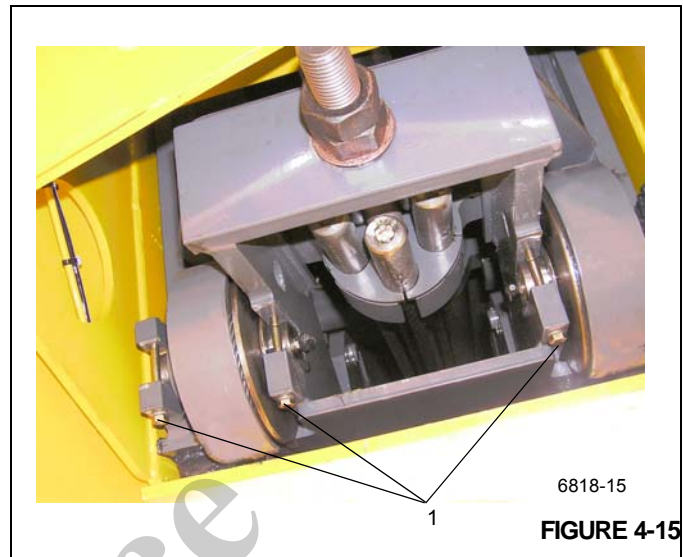

FIGURE 4-15
1. On both sides, remove the bolts (Figure 4-15, 1) securing each retract sheave assembly shaft weldment. Remove the shaft, spacer bushing, sheave assembly,